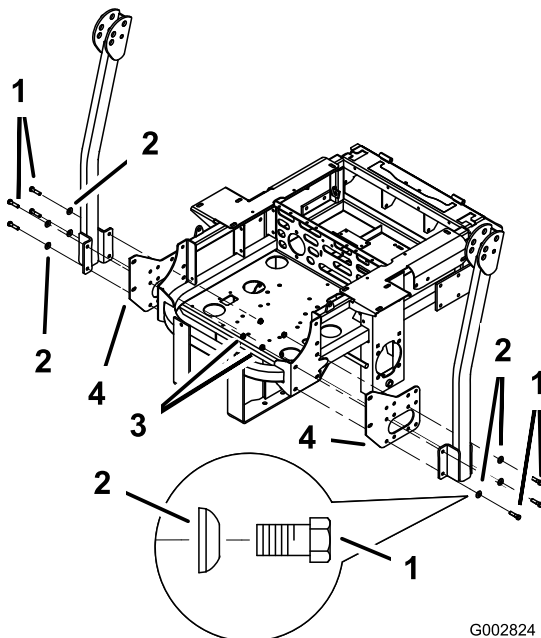

Figure 2
2. Remove the bolts, nuts, and washers holding the roll bar to one side of the machine. Discard the nuts, bolts, and washers (Figure 2).
3. Install the bagger side plate and the roll bar section to the side of the machine using 4 bolts (3/8 x 1-1/2 inches), 4 curved washers (3/8 inch), and 4 flange nuts (3/8 inch) (Figure 2).
5. Repeat the steps above for the opposite side (Figure 2).
Note: Make sure the curved washer are installed as shown in Figure 2.